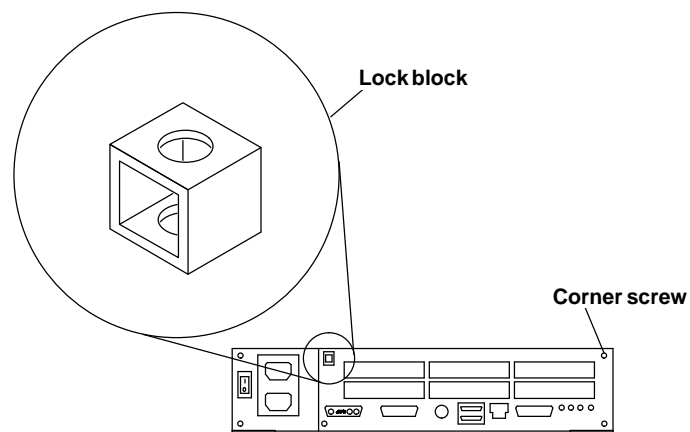

Figure 4-11. Lock Block and Corner Screw on Rear Panel
2. Replace the lock block and use a Phillips screwdriver to tighten the screw that secures the lock block to the cover. See Figure 4-11.
3. Use a Phillips screwdriver to tighten the screw on the corner for the back panel and secure the cover. See Figure 4-11.